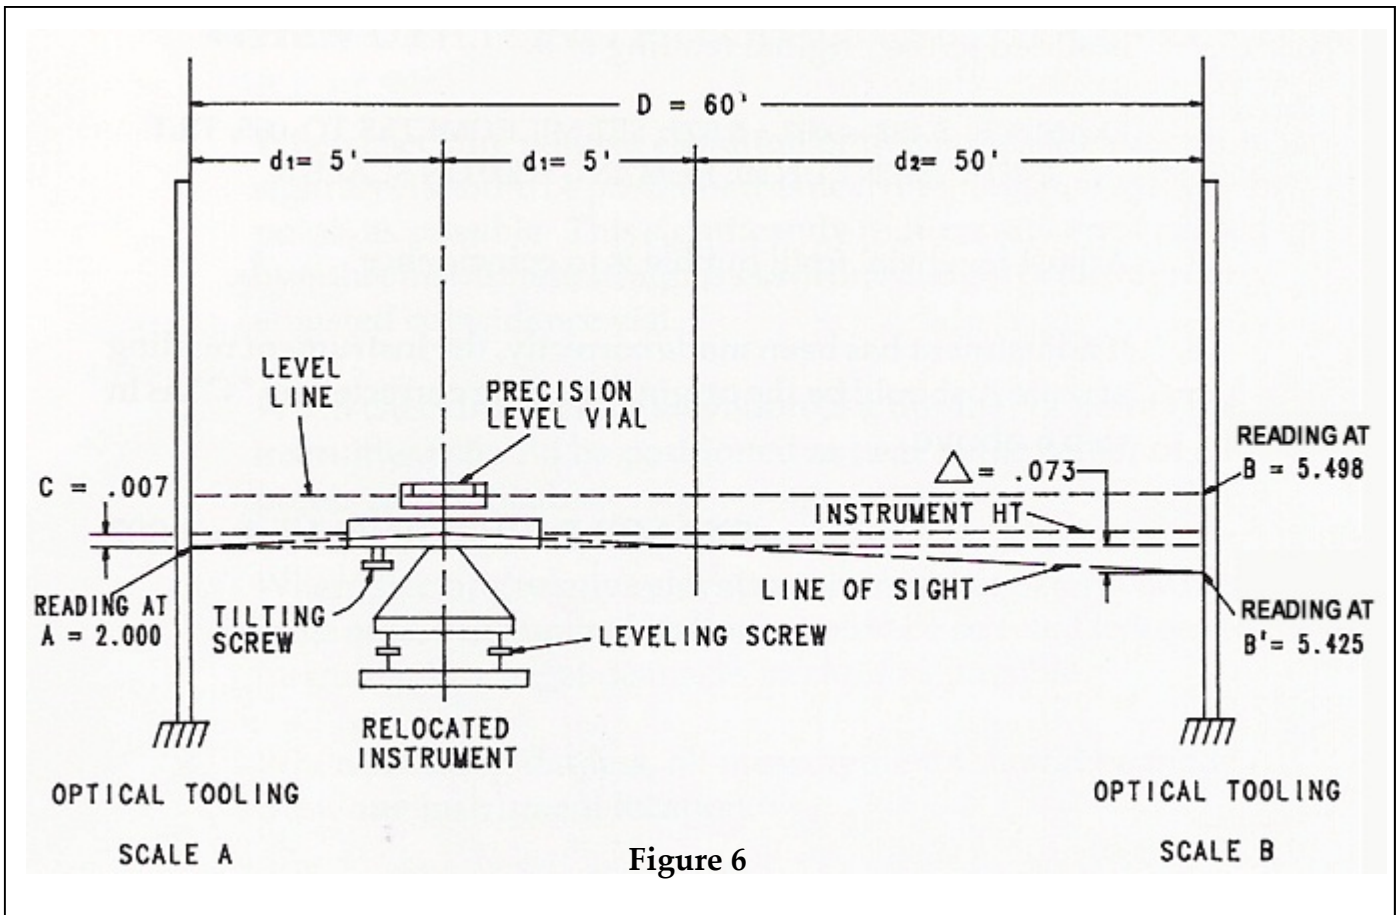

Figure 6
4. Now, relocate the instrument as near as practical to scale A, as shown in Figure 6. (Preferably, the instrument should be located near A, about 1/10 or 1/12 of the distance between A and B. In our example, we would want to set the instrument about 5-6 feet away from A). Rough level the instrument using the plate vial and the leveling screws. Precisely level the coincidence vial using the tilting
If the instrument has an error " $\Delta$ " and the reading at B1 is less than B, the line of sight slopes downward (as shown in Figure 6). If the reading at B1 is greater than B, the line of sight slopes upward. In our example, we know that the instrument's line of sight is tilted downward, because our reading of 5.245 (B1) is below the original reading of 5.498 (B).
7. Having now determined the attitude of the line of sight (upward or downward slope) and calculated the correction, we will now aim the instrument to the corrected reading on scale B. This should put the line of sight at dead level. If the line of sight slopes upward, correction "C" is subtracted from the original reading at B. If the line of sight slopes downward (as in Figure 6), "C" is added to the